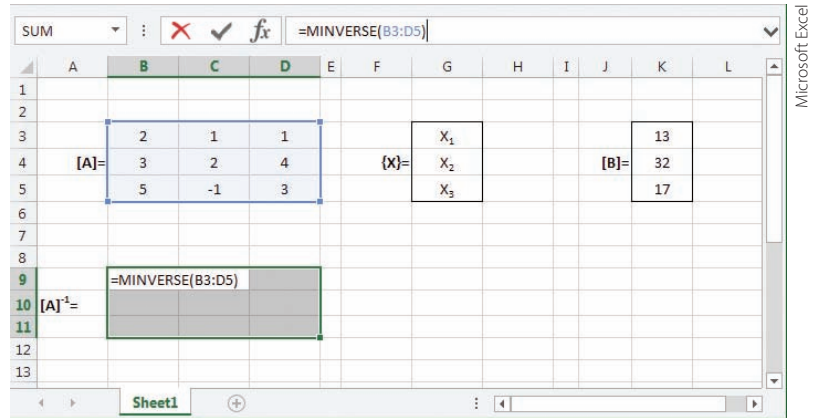

FIGURE 14.42
2. In cell A10, type $[A]^{-1} =$, and using the left mouse button, pick cells B9 through D11 as shown in Figure 14.42.